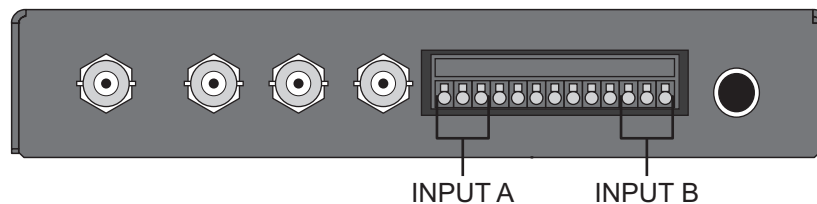

Figure 5.2 ADC-9532 — ANLG Audio Connections
2. Verify the silk-screen on the ADC-9532 chassis and **Figure 5.2** to locate the pins for each input (A, B).